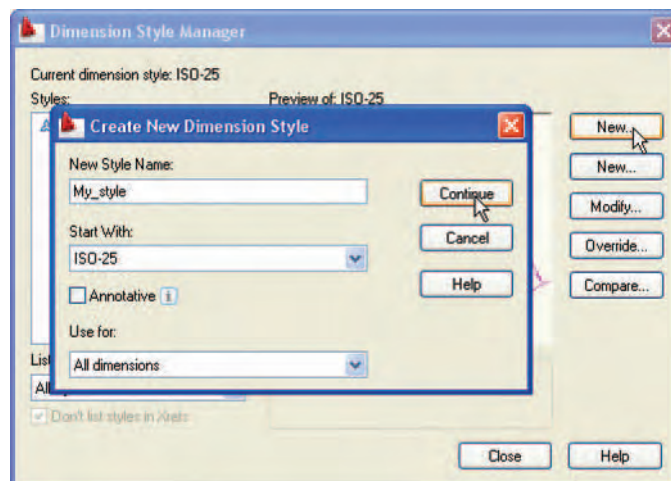
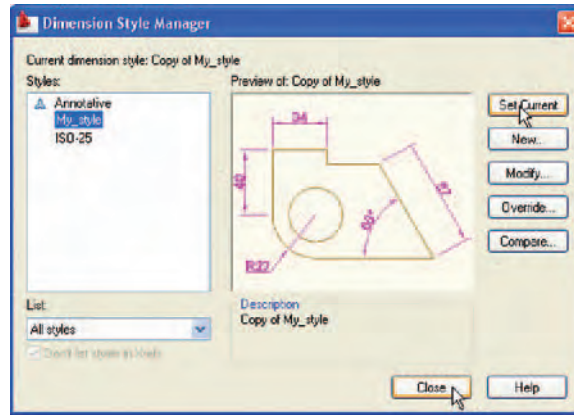

Fig. 4.13 The **Create New Dimension Style** dialog
Fig. 4.14 The Dimension Style Manager reappears. *Click* the Set Current and Close buttons
8. The **Dimension Styles Manager** dialog reappears showing dimensions, as they will appear in a drawing, in the **Preview of my-style** box. *Click* the **New...** button. The **Create New Dimension Style** dialog appears (Fig. 4.13). *Enter a suitable name in the New style name field* – in this example this is **My-style**. *Click* the **Continue** button and the **Dimension Style Manager** appears (Fig. 4.14). This dialog now shows a preview of the **My-style** dimensions. *Click* the dialog's **Set Current** button, following by another *click* on the **Close** button (see Fig. 4.14).